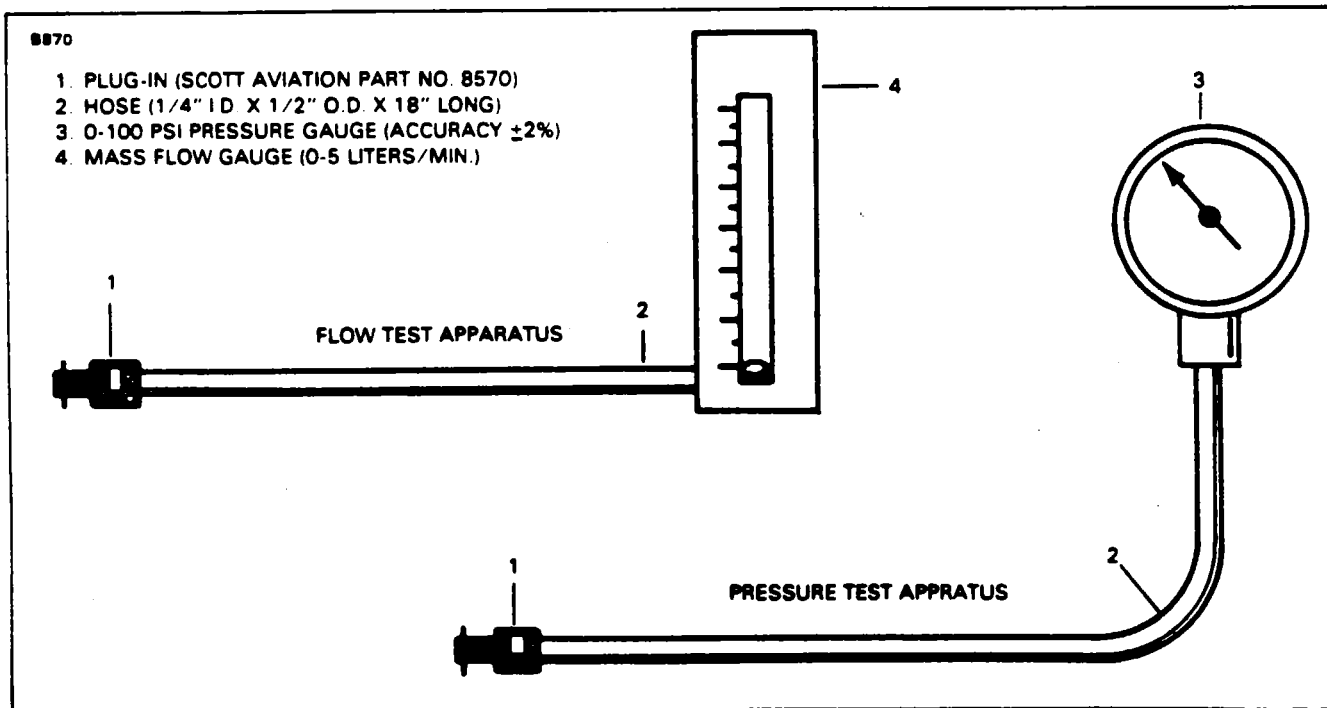

Figure 35-2. Test Apparatus for Testing Oxygen System
4. An operational check of the regulator can be accomplished as follows; (Refer to Figure 35-2.)